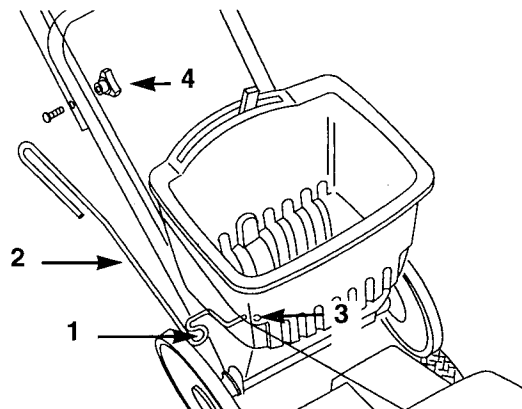

Figure 56
3. Remove the handle knob and bolt (Fig. 56) from the right side of the mower.
- A. Insert the mounting rod into the hole on the right side of the hopper (Fig. 56).
- B. Put the engine rope into the curve in the mounting rod (Fig. 56).
2. Remove the mounting rod and bracket from the handle and the hopper (Fig. 56). Reinstall the handle knob and bolt.